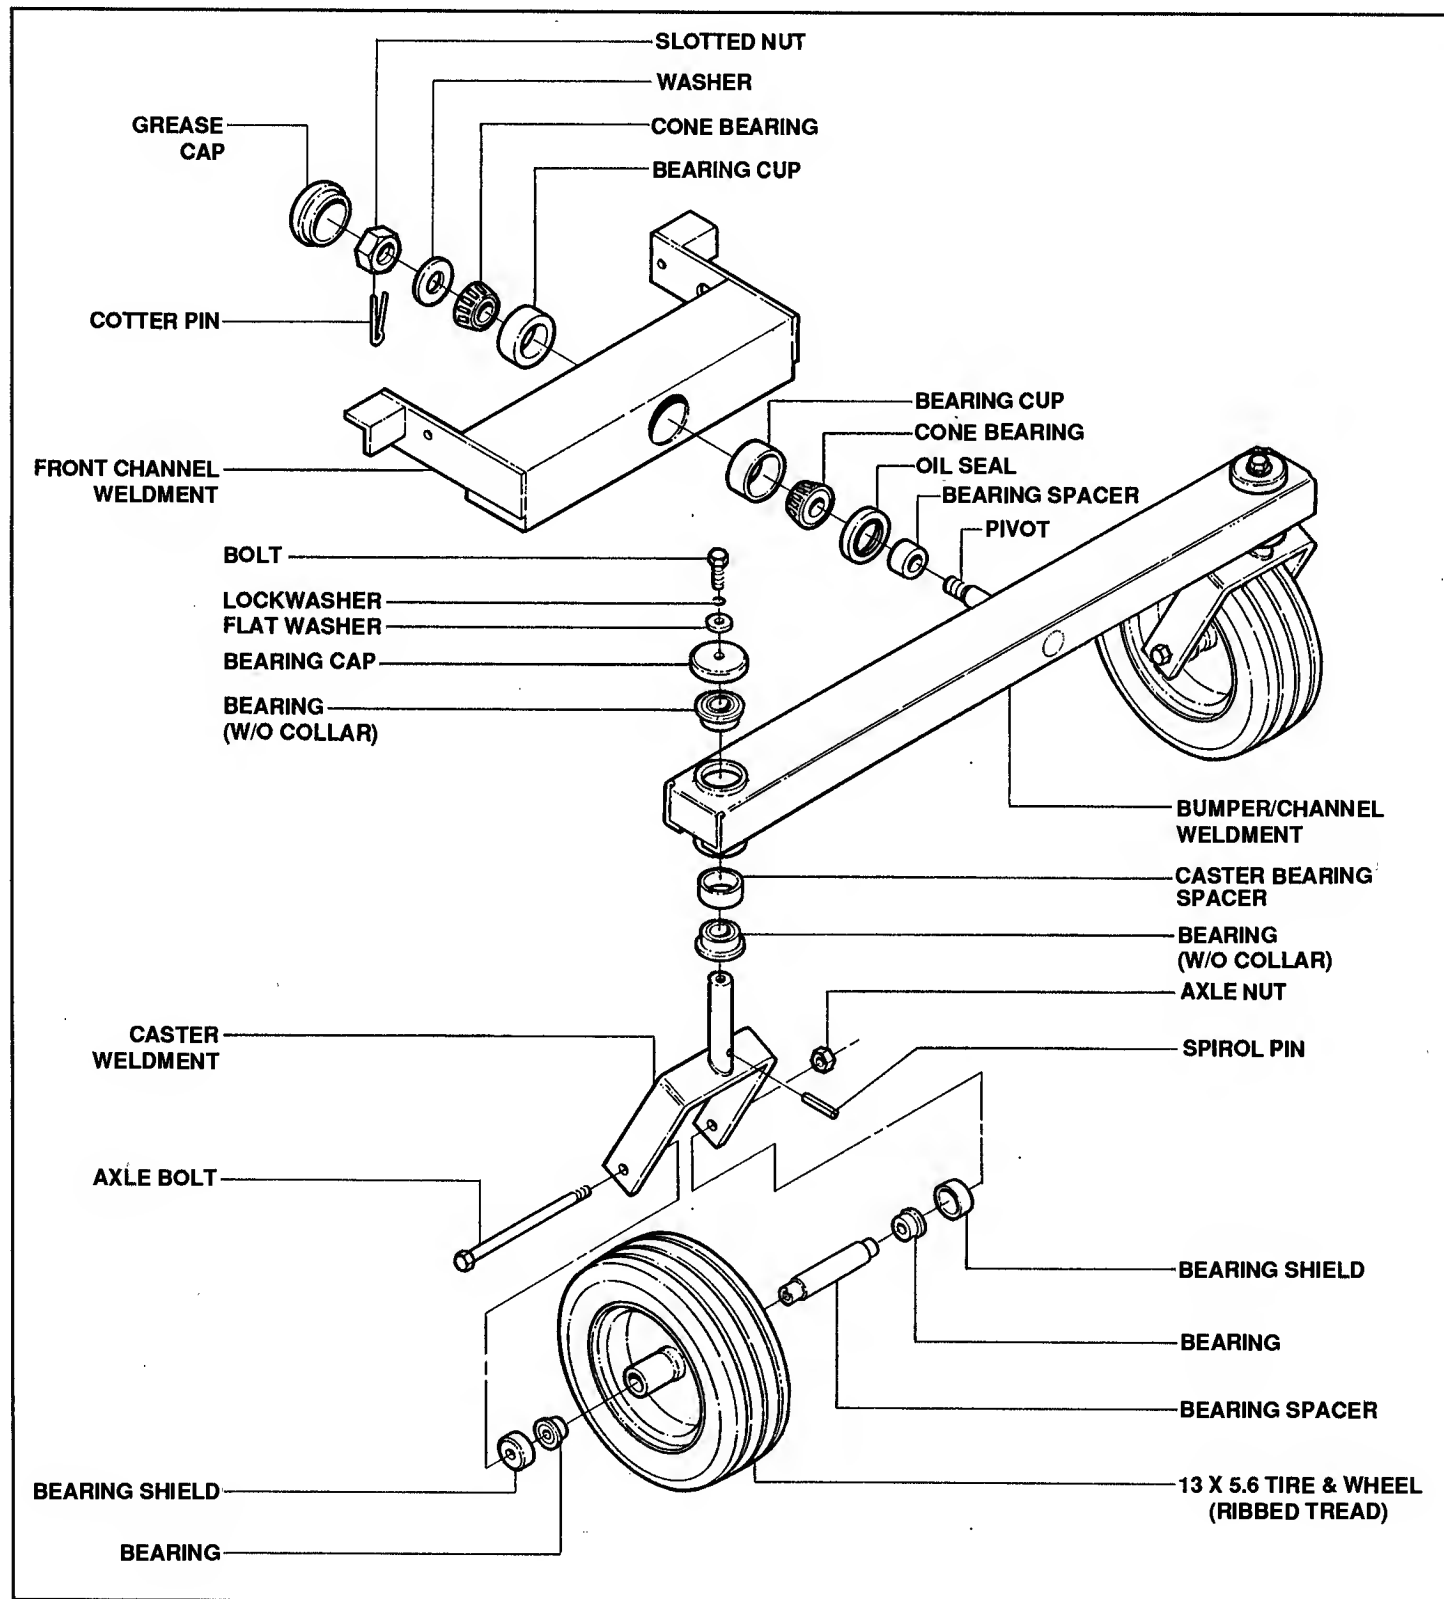

FIGURE 6.1
These components include the front bumper/axle assemblies, caster assemblies and front wheel assemblies. See Figure 6.1.
E. Remove bearing components from axle pivot shaft and front channel weldment. Refer to Figure 6.1.